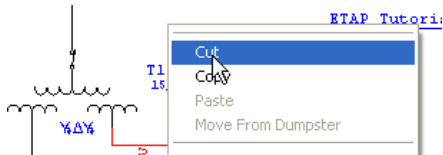

Fig. 7
- Right-click anywhere on the canvass and select “Cut” command from the pop-up menu. See Fig. 7